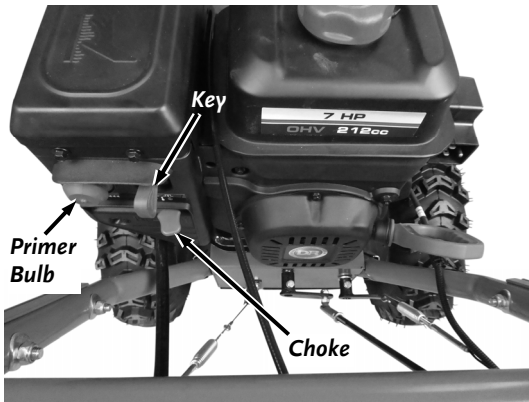

Figure 24
1. Insert the Key into the Key Slot (**Figure 24**).